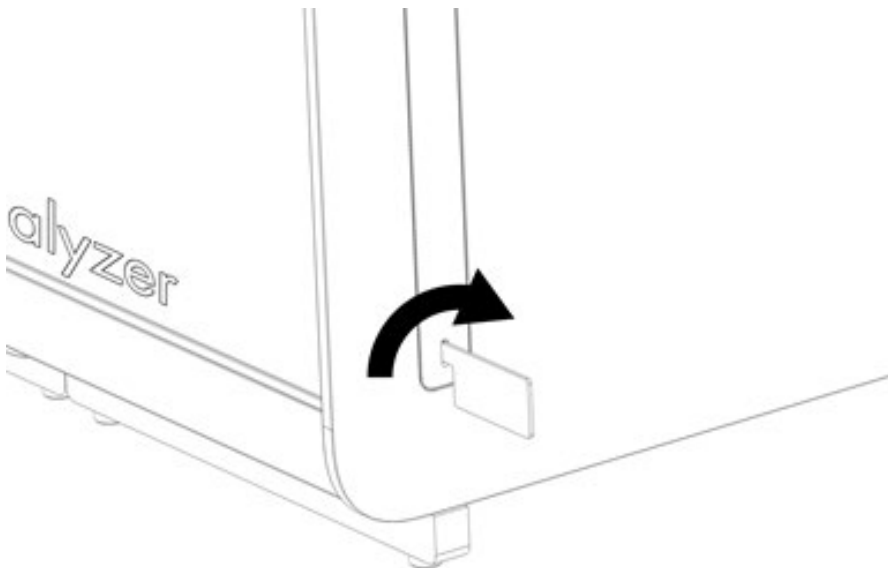

Figure 15. Removing protective covers.
3. Remove the protective covers from the side of the Analytical Module using the Protective Cover Removal Tool delivered with the QIAstat-Dx Analyzer 1.0 (Figure 15).